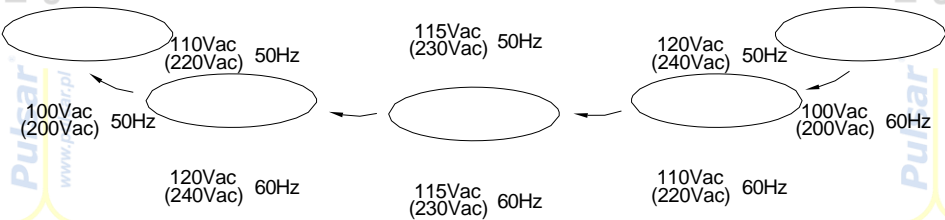

Figure 5.2: State Circulation Diagram of Output Voltage and Frequency
STEP 7: The LEDs will change state by pressing the setting button for 1 second and then release (refer to Figure 5.2). Please select the combination of output voltage and frequency you need.